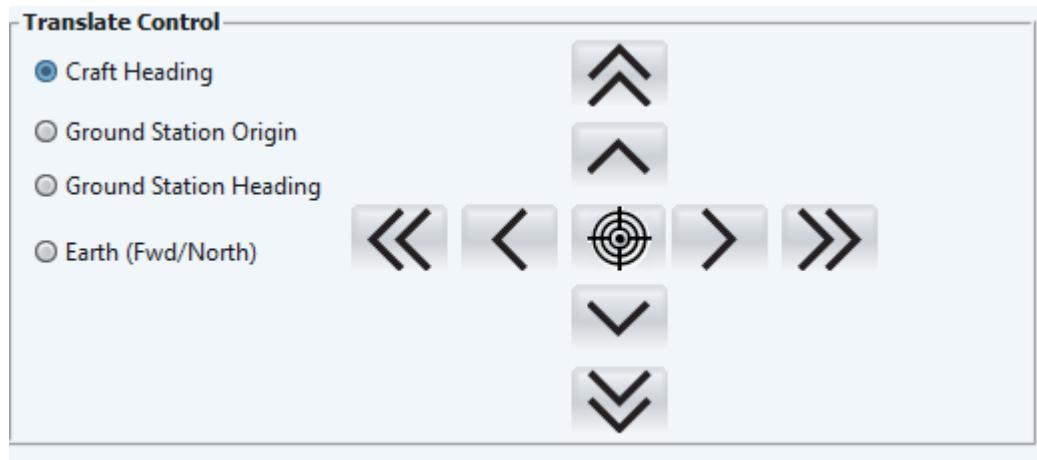

Figure 31 – Translate or “Nudge” Controls Panel
9. Use the translate controls shown in Figure 31 to adjust the position of the drone. The single arrow ">" will move the drone by the "Horizontal Nudge Distance" preference located under the "Pilot Controls" tab. The double arrow ">>" will move the drone by twice the nudge distance.